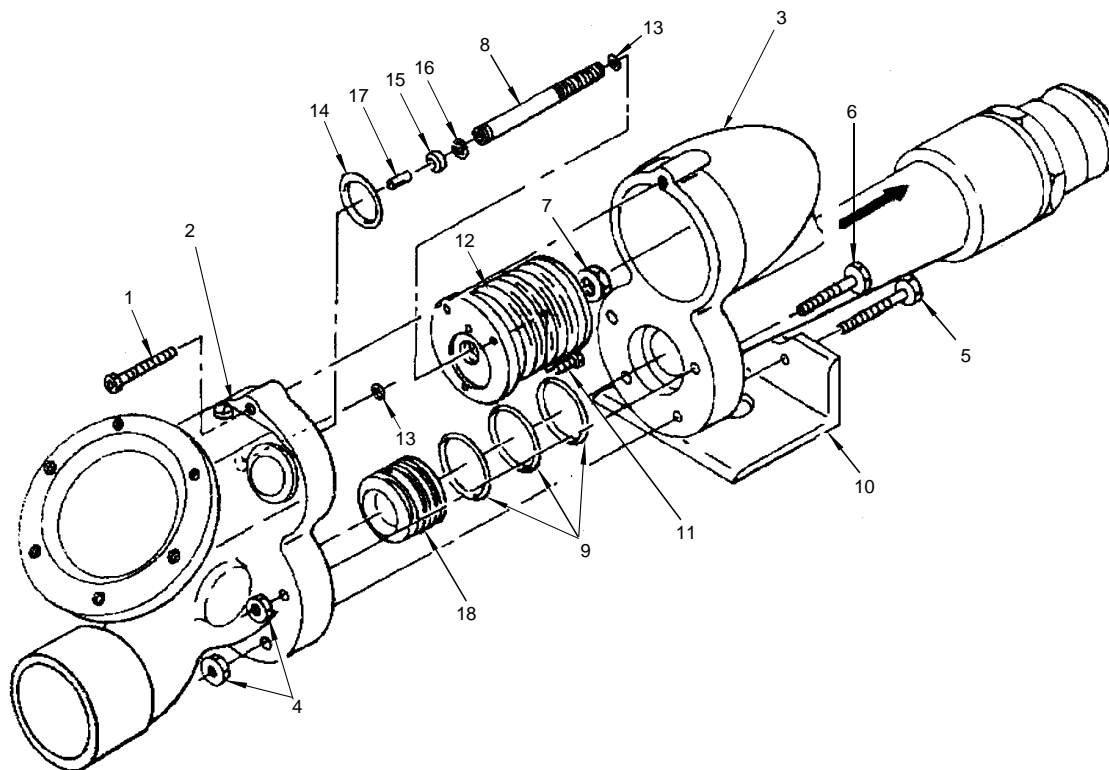

Figure 4. Pressure Control Pilot Valve
**PILOT VALVE ADJUSTMENT** (Refer to figures 4 and 5.)
1. Remove capscrew (figure 4, 1) from housing bodies (2 and 3).
2. Remove nuts (4) from four screws (5 and 6). Remove screws from housing bodies (2 and 3).
4. Loosen nut (figure 4, 7) as shown in figure 5A.
6. Tighten nut (figure 4, 7) to lock valve stem (8).
**PILOT VALVE REMOVAL AND DISASSEMBLY** (Refer to figure 4.)
**PILOT VALVE CLEANING, INSPECTION AND REPAIR** (Refer to figure 4.)
2. Inspect bellows assembly (12) for cracks or breaks.
3. Inspect for burred valve stem (8) or damaged valve stem threads.
**PILOT VALVE ASSEMBLY AND INSTALLATION** (Refer to figure 4.)
1. Install valve guide (17) and retaining ring (16) on valve stem (8).
2. Grasp the unthreaded end of valve stem (8), place threaded end in bellows assembly (12), and turn valve stem clockwise to install valve stem through bellows assembly.
3. Install seal (15) and O-rings (13 and 14) coated with silicone compound.
4. Screw nut (7) on valve stem (8) until approximately one half of valve stem threads are through nut.
5. Place bellows assembly (12) against housing body (2), aligning holes in bellows assembly (12) with holes in housing body.
6. Install three screws (11) through bellows assembly (12) into housing assembly. Tighten screws securely.
7. Place two housing bodies (2 and 3) together, align holes in bodies, and install four screws (5 and 6) and nuts (4). Torque nuts to 20 foot-pounds (2.77 m-kg).
**VENTURI REMOVAL AND DISASSEMBLY** (Refer to figure 4.)